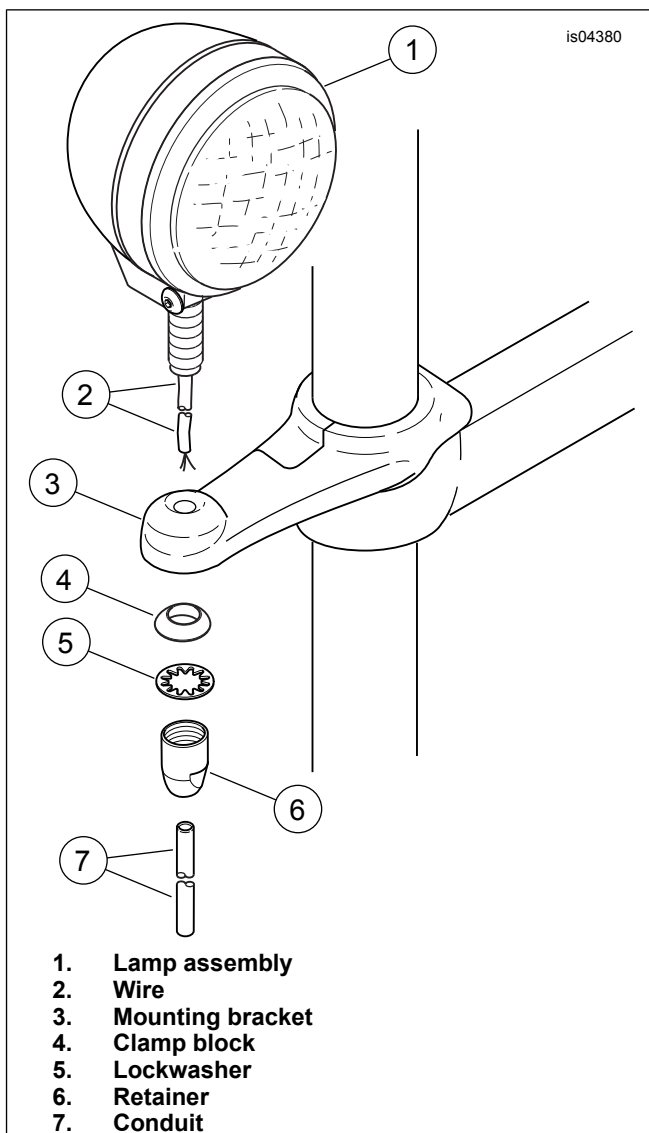

Figure 2. Install Lamps
6. See Figure 2. Route the wire (2) of the **blue** pursuit lamp (1) through the right-side mounting bracket (3), and secure the lamp to the bracket using a clamp block (4), lockwasher (5) and retainer (6). Tighten the retainer to 22–24 N·m (16–18 ft-lbs).